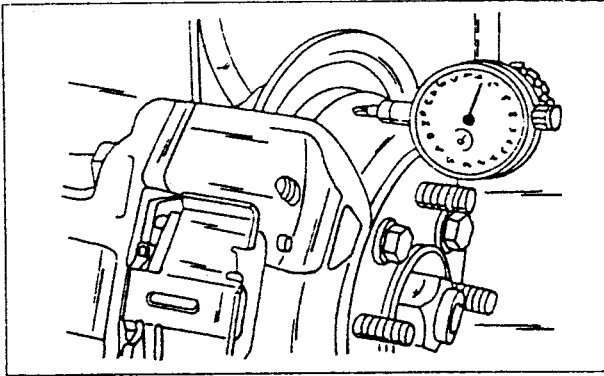

Fig. 13.7. — Checking a brake disc for run-out.
- To check a brake disc for distortion, refit it to the hub and use two of the wheel nuts to tighten the disc to the hub. Apply a dial gauge to the outer edge of the disc, as shown in Fig. 13.7 and slowly rotate the disc. Observe the needle deflection, indicating the run-out of the disc. This should not exceed 0.07 mm (0.0028 in.). Replace the disc if otherwise. If the disc has just been fitted to the hub, remove it once more and check that no foreign bodies are trapped between the surfaces of hub and disc. Then re-check.
- To check a brake disc for distortion, refit it to the hub and tighten the screw. Apply a dial gauge to the outer edge of the disc, similarly as shown in Fig. 13.7 and slowly rotate the disc. Observe the needle deflection, indicating the run-out of the disc. This should not exceed 0.08 mm (0.003 in.). Replace the disc if otherwise. If the disc has just been refitted there is the possibility that something has been tapped between disc and hub face. Remove the disc, wipe the faces clean and re-check as described.